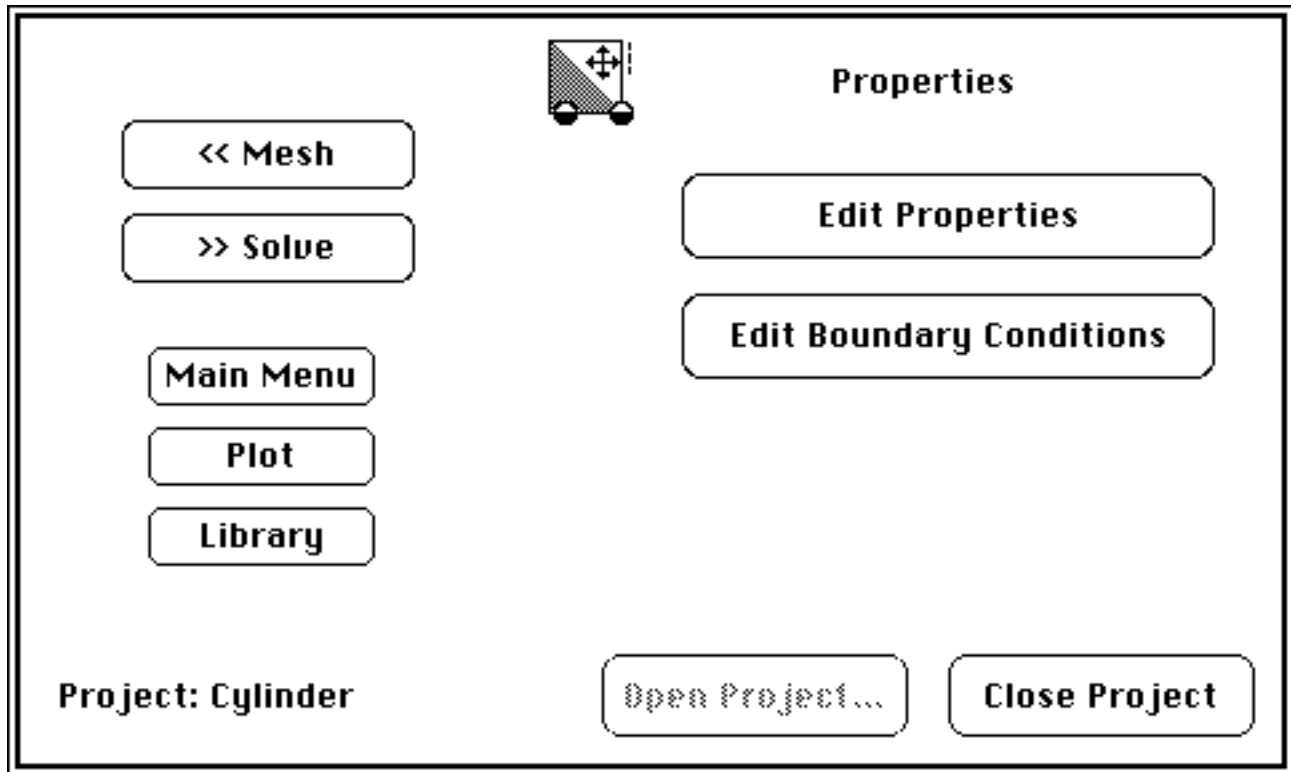
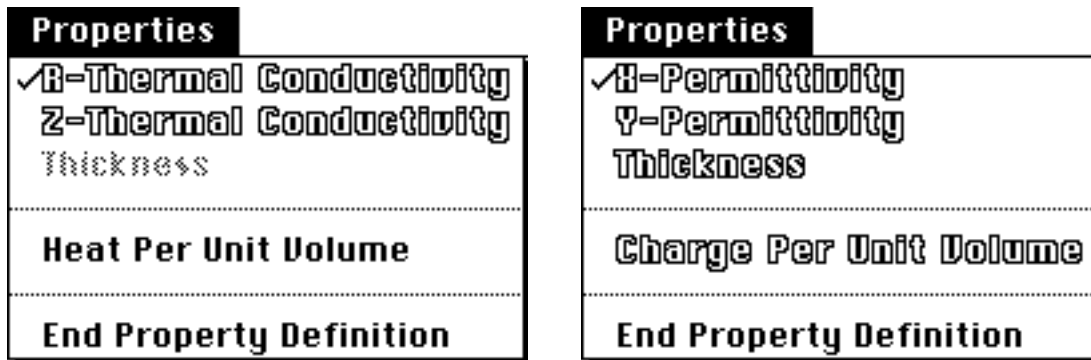
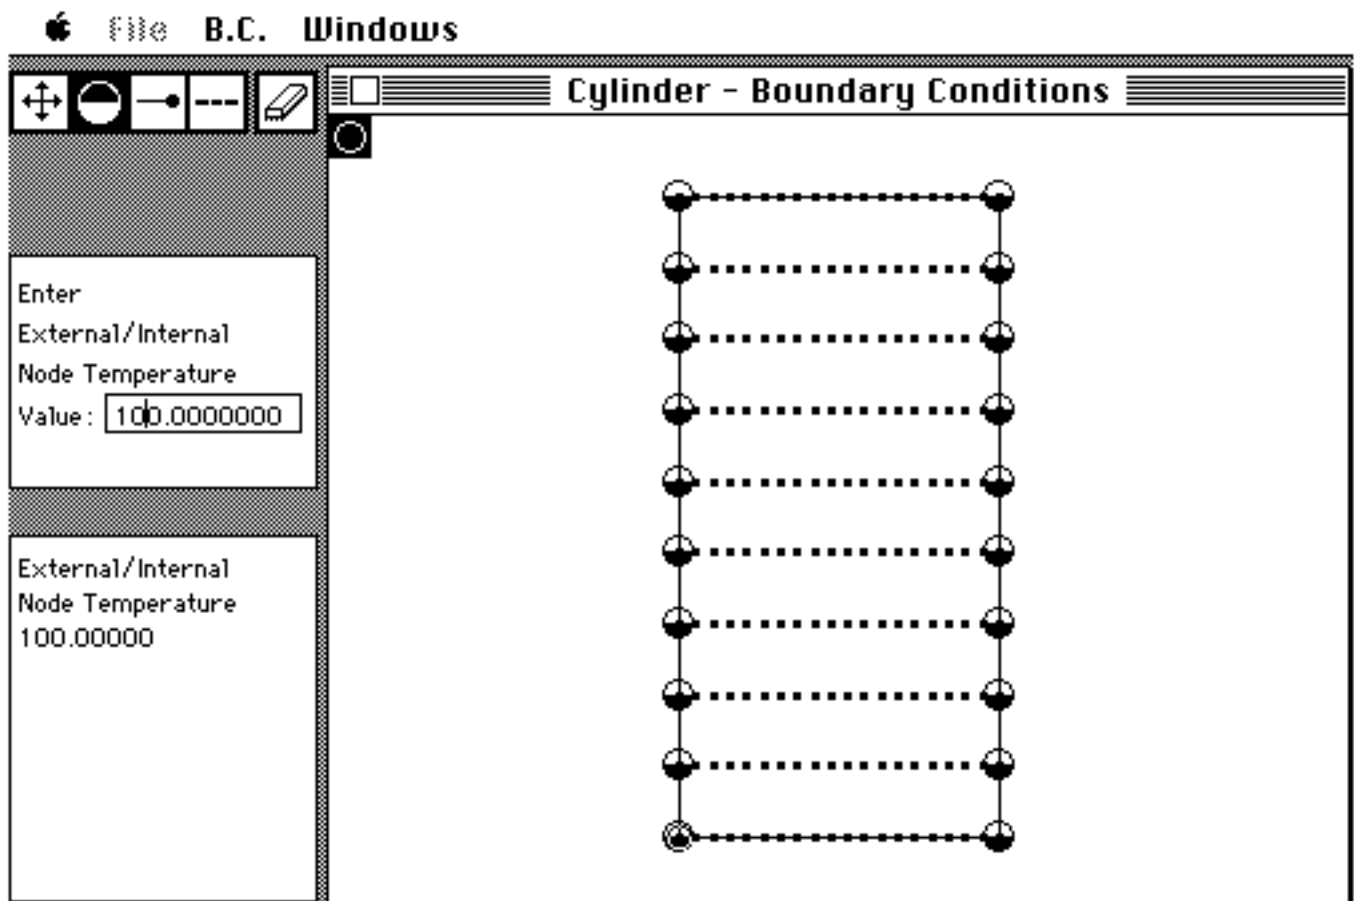

Fig 2.29 Properties module entry
Fig 2.32 Properties menus
Fig 2.34 Boundary conditions (cylinder)
“Enter” indicates the creation of a new file and “Edit” indicates revision of existing files, as in this demo. If you had not already selected a project, you would be required to do that at this point. Buttons (Fig 2.29) allow you to branch to other parts of MP.
- Click Edit Properties (Fig 2.29).
The process is the same for both examples. However, different properties are involved (Fig 2.32). For heat conduction the parameters are  $r$  and  $z$  conductivity and heat per unit volume; for electrostatics the properties are  $x$  and  $y$  permittivity and charge per unit volume. The thickness is relevant only for planar problems.
- Select End Property Definition from the Properties menu (Fig 2.32) to return to the Properties module menu (Fig 2.29).
- Select Edit Boundary Conditions (Fig 2.29).
The boundary condition tools are on the palette (Fig 2.34).
- Select End Boundary Condition from the boundary condition (B.C.) menu (Figs 2.34 or 2.35) to return to the Properties menu (Fig 2.29).
- Click Solve on the Properties menu (Fig 2.29) to advance to the next module.
You can enter the solve module from the main menu (Fig 2.10) or as a continuation from the properties module (Fig 2.29). Note: For the heat conduction example, “Temperature” replaces “Potential” on the menu.